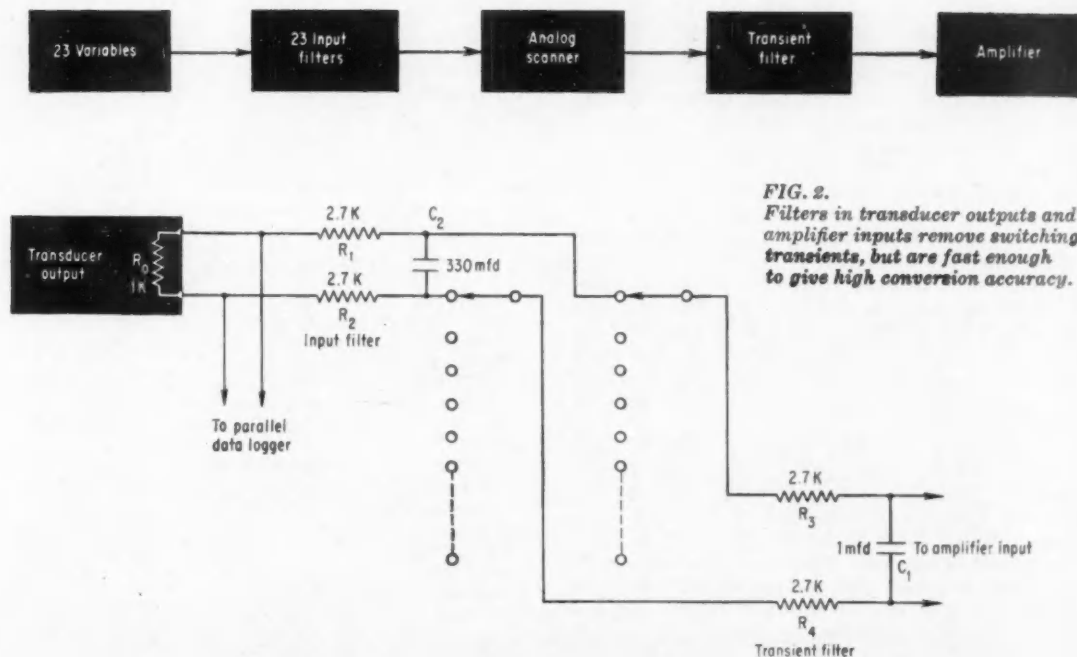

FIG. 2.
• **Isolation filters.** Figure 2 shows input filters between the transducer outputs and the analog scanner. The input filter time constant was set